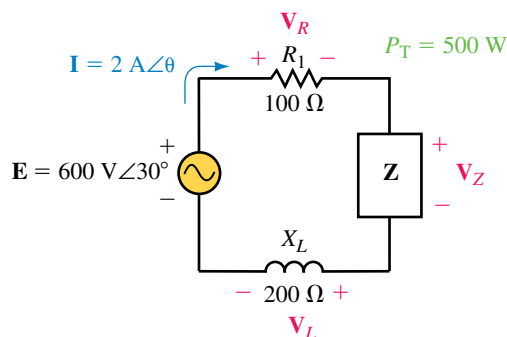

FIGURE 18–100
30. Given that the circuit of Figure 18–100 has a current with a magnitude of 2.0 A and dissipates a total power of 500 W: